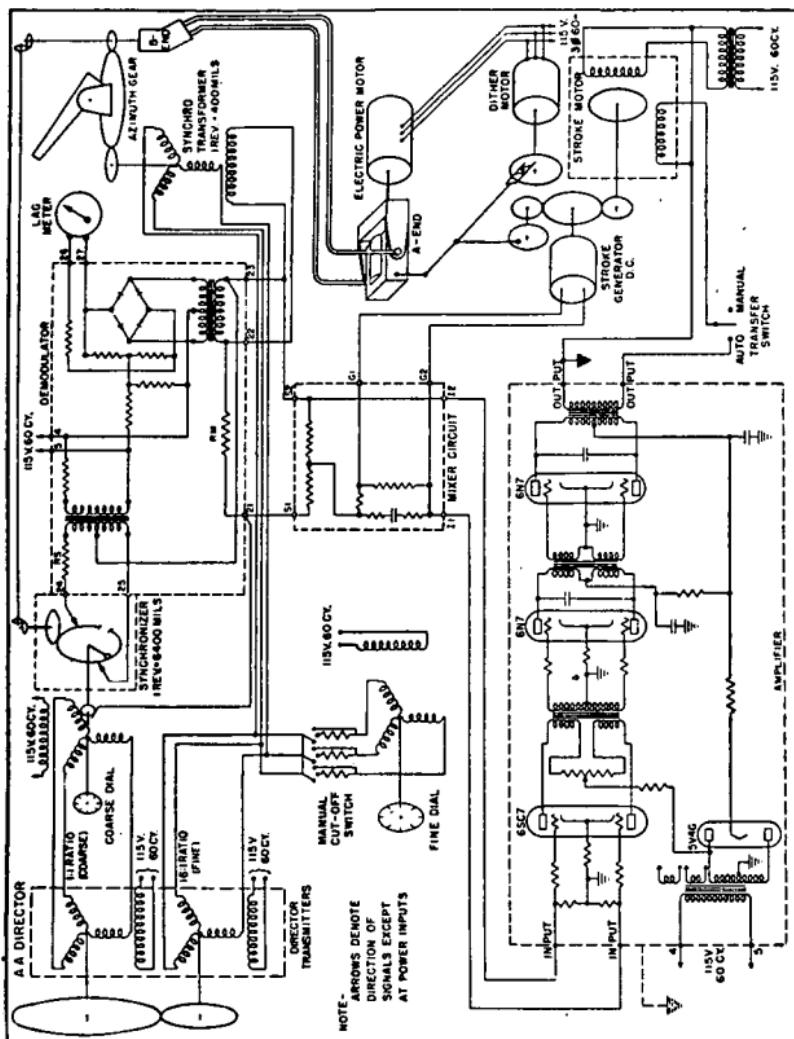
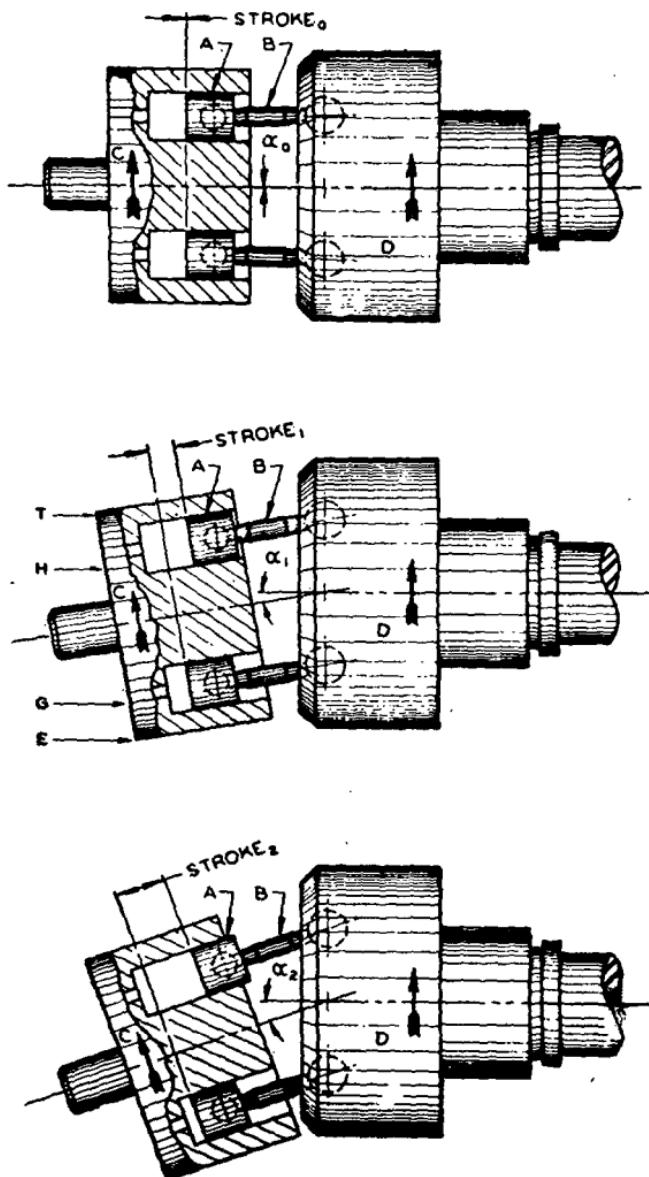

FIGURE 20.—Wiring system—schematic.
FIGURE 23.—A-end pump.
a. Signal system (figs. 20 and 21).—(1) Two electrical inputs and one mechanical input determine the output of the signal system. These inputs are the coarse and fine data from the director and the mechanical indication of the present position of the gun. If the electrical and mechanical inputs agree, synchronism exists, and no signal is produced. If they do not agree, a signal consisting of voltage of the proper phase and intensity is transmitted to the stroke control system. In addition, by means of the lag meter, the signal system shows whether or not the remote control sys-
(10) The secondary function of the signal system is to provide a visual indication of the proper functioning of the entire system. Depending upon the position of the gun in relation to the incoming signal from the fine transmitter at the director, the pointer of the lag meter will deflect to the left or right. The pointer of the lag meter is at zero when the gun is in the synchronous position (or any multiple of 200 mils away from synchronism).
b. *Stroke control system* (figs. 20, 21, and 25).—(1) Before considering the stroke control system it is necessary to understand the fundamentals of the hydraulic system (*c* below). The gun is positioned in azimuth and elevation by hydraulic motors called *B*-ends. These motors rotate in either direction depending upon the direction of the flow of oil and at a speed proportional to the amount of oil flowing. The direction and amount of flow are determined by the stroke of hydraulic pumps called *A*-ends. This stroke is varied by displacing a yoke. It is the stroke control system that positions the yoke. In addition, the stroke control system is responsible for returning the system to an inoperative condition when the gun has reached synchronism.
(2) The stroke control system consists of mixer, amplifier, and stroke control assembly (stroke control motor, stroke generator, and spring coupling). There are two stroke control systems, one for azimuth and one for elevation, identical in function but *not* interchangeable.
(3) The signal produced by the signal system when the gun is out of synchronism is called the "error signal." This signal is used to produce a mechanical motion which will actuate the hydraulic system. However, the error signal is not powerful enough to accomplish this and must be magnified. This is done by the amplifier. It is important to note that the amplifier is so constructed that the phase of the amplified a-c output is the same as any a-c input.
(4) The output of the amplifier, that is, the amplified sig-
(3) *A-end pump* (figs. 20, 21, 23, and 25).—The A-end pump consists of a flange and shaft, a cylinder block connected to the flange by a universal link, and pistons and connecting rods. The pistons are retained in cylinders in the cylinder block and are connected to the flange by connecting rods. The flange and shaft are rotated at constant speed. Through the universal link connection (not shown in fig. 23), the cylinder block rotates with the flange. The angle between the axis of rotation of the cylinder block and that of the flange can be varied. If there is no angle between the two, then, in the course of rotation, the pistons will not move either inward or outward in their cylinders. If there is an angle, then each piston in its cylinder will move inward during one-half revolution, and outward during the next. Each piston in its cylinder, during the course of rotation, comes opposite two ports. Depending upon whether the piston is moving inward or outward in its cylinder as it